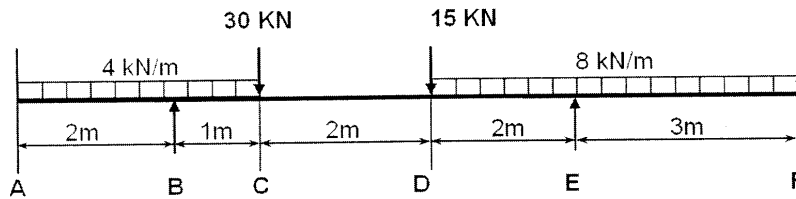

FIGURE 1
- 2.2 FIGURE 1 below shows a light horizontal beam ABCDEF of a uniform cross-section, loaded as shown.